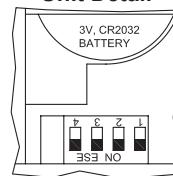

Figure 1a
2. Transmitter: remove battery cover. Press firmly below arrow and slide battery cover off. Slide code switches to your choice of up or down position. Factory setting is all up. Do not use this position. With a small screwdriver or ball point pen slide firmly up or down (Figure 1a). Replace battery cover on the transmitter.